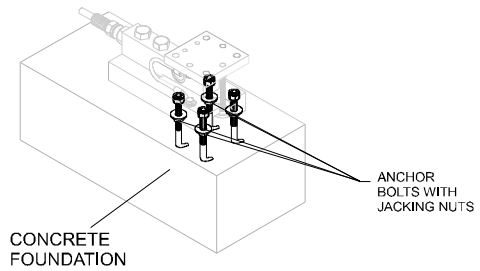

FIG. 18: INSTALLING THE FOUR ANCHOR BOLTS FOR THE BASE PLATE
- Step 9. Make sure to leave room to install the jacking nuts and washers. You are going to make the level adjustments with the jacking nuts. (See Fig. 18)